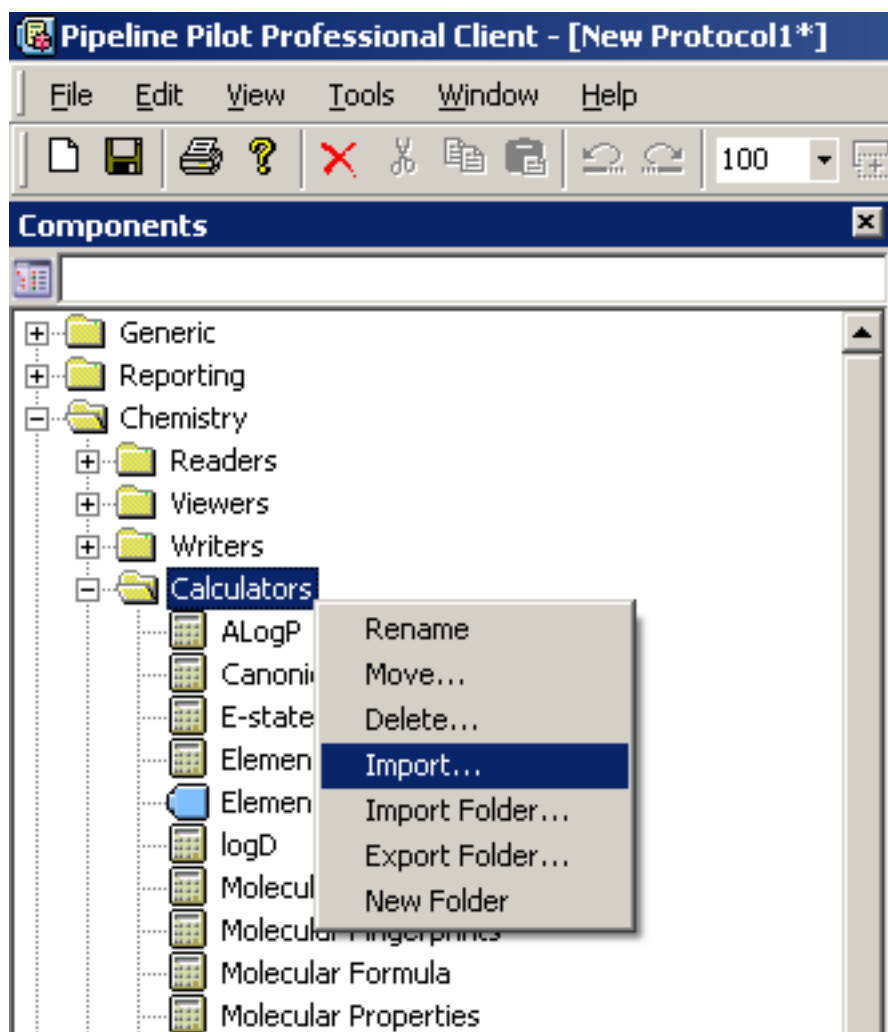

Figure 3.1: Example location for Import command.
2. You can then drag and drop the component into the Pipeline Pilot Client Component area. Alternatively, within your Pipeline Pilot Client, import the `.xml` file into the Client as in figure 3.1.